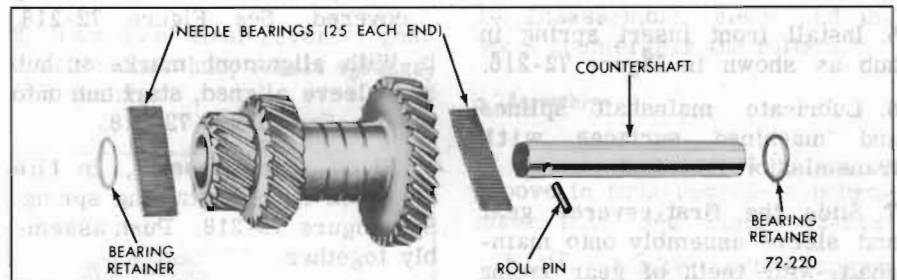

Figure 72-220—Exploded View of Countergear
2. Assemble the countergear alignment Tool J-21775, bearings, thrust washers, and place in bottom of case. The countergear will remain in the bottom of the case until the mainshaft and main drive gear have been installed. See Figure 72-220.